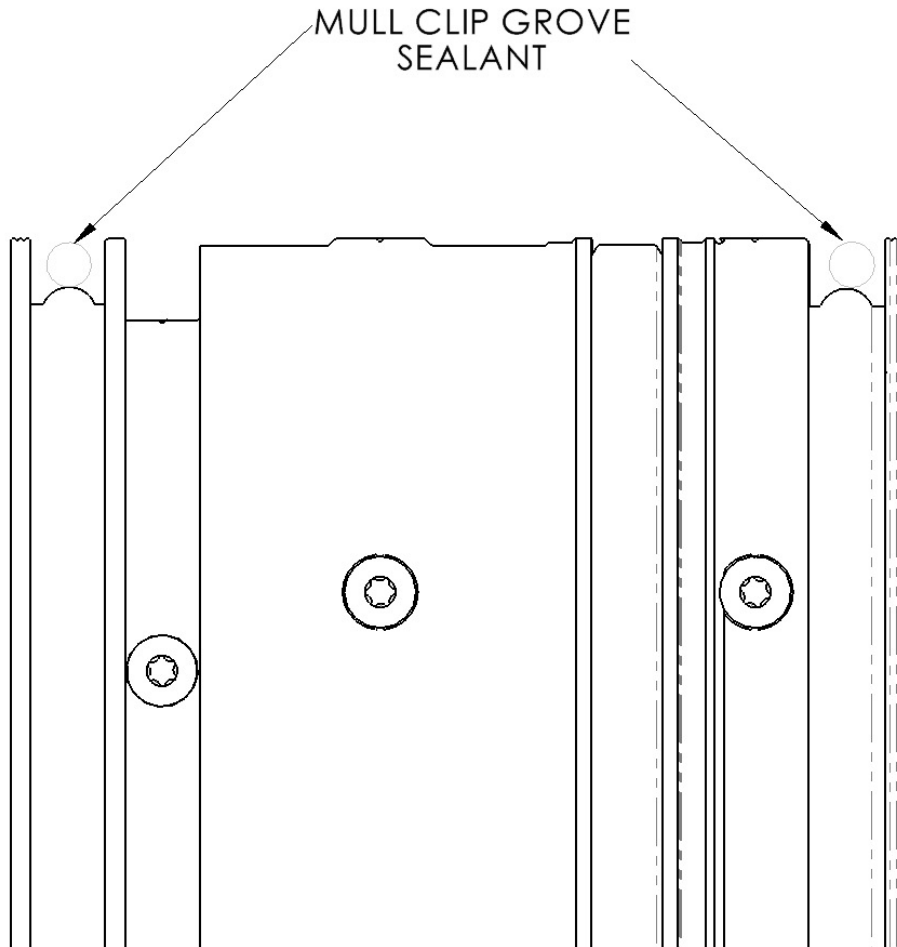

Figure 3
1. Apply a 1/4" diameter bead of Dow 795 sealant or equivalent sealant in each mull clip groove. (See Figure 3).